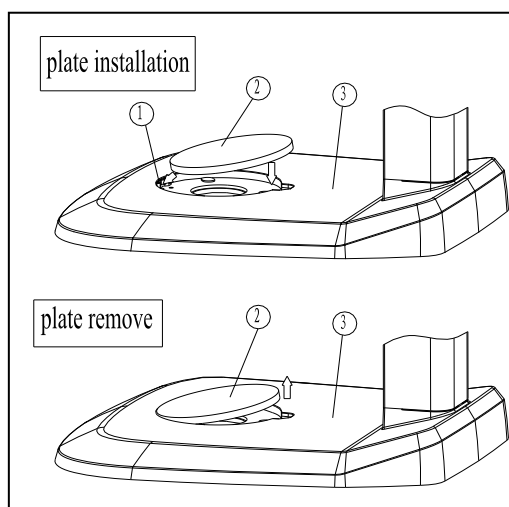

Fig 15
7.2.3 Stage plate installation (Fig 15)
3. Install the glass plate (Fig 15).